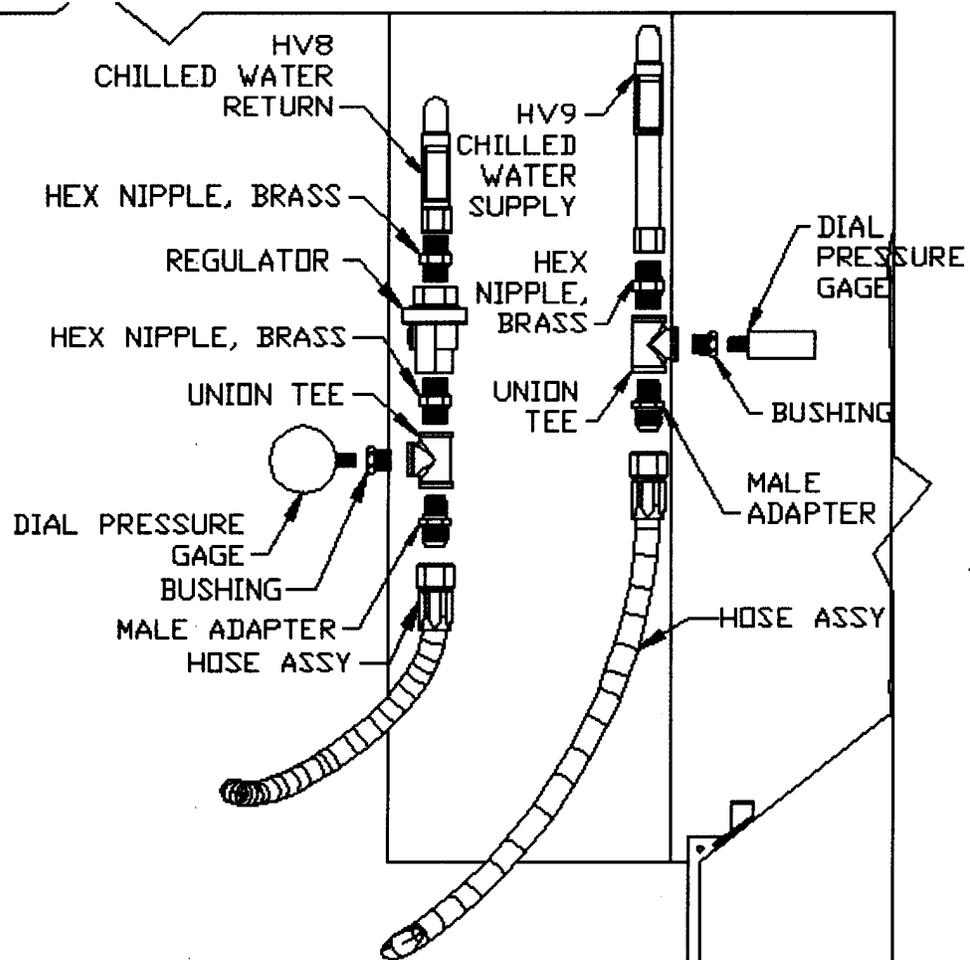

Figure 6. Regulator and Dial Pressure Gage Installation
16. Take note of the arrow on the regulator. The arrow indicates the direction of flow and once installed, the arrow should be pointing down. Screw the regulator onto the brass hex nipple. See Figure 6.
20. Apply Teflon tape to dial pressure gage and screw onto the bushing. See Figure 6.